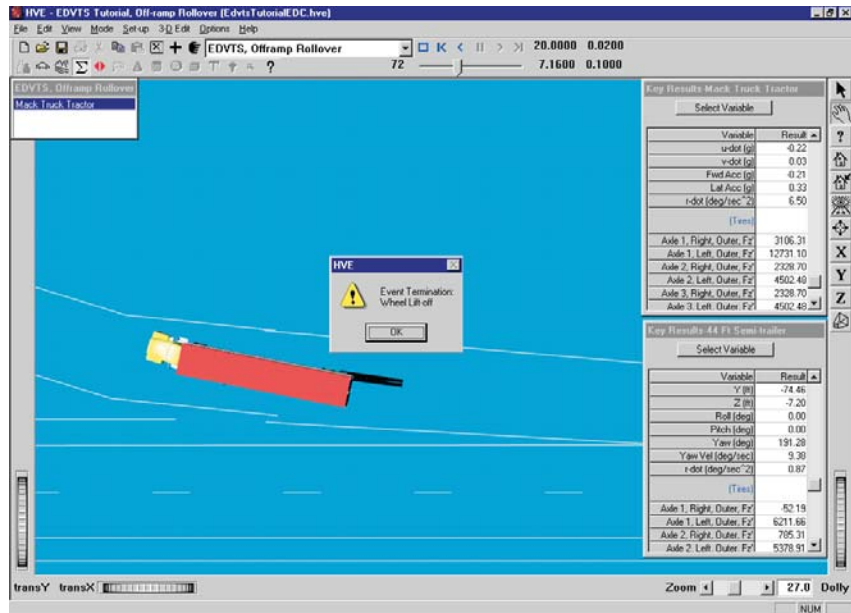

Figure 5-13 Event Editor executing the EDVTS event.
- ☞ **NOTE:** EDVTS terminated and told HVE-2D to display a message alerting us to the reason for termination (note the message displayed in Figure 5-13).